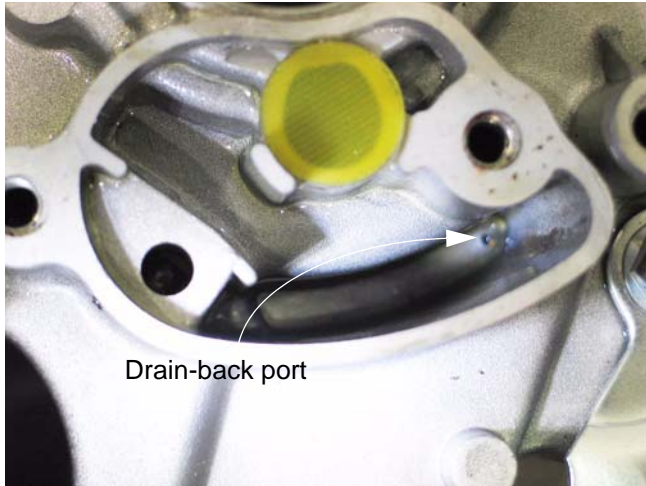

Figure 2.9
11. The screen accumulates droplets of oil, which eventually drip down to the bottom of the chamber. Beneath the screen is a drain-back port, leading to the crankcase. the size of the port is small enough that significant pressure does not flow through it. See Figure 2.9.